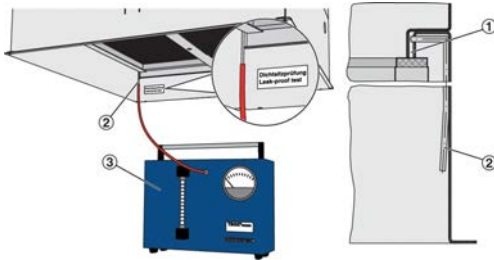

Fig. 8: Sealing integrity test
1. ▶ Connect the sealing integrity test device (Fig. 8/3) to the connection point in the casing (Fig. 8/2).
2. ▶ Apply at least 2000 Pa to the test groove (Fig. 8/1).